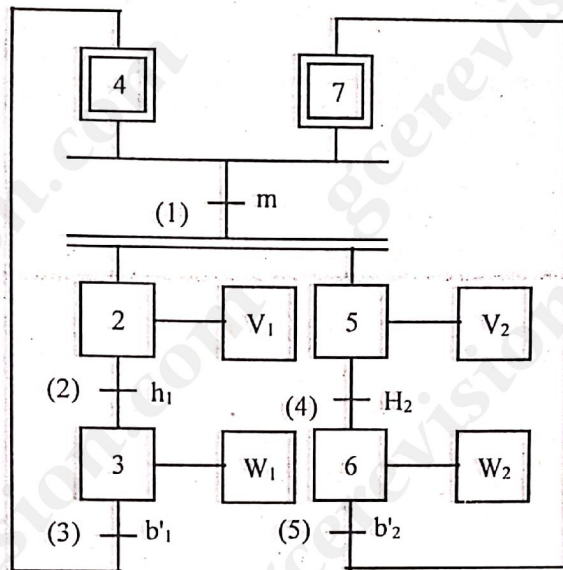

Figure 3
5. The GRAFCET level two represented in figure 3 is that of an **AUTOMATIC DISTRIBUTION SYSTEM**, whose description and functioning are not given.